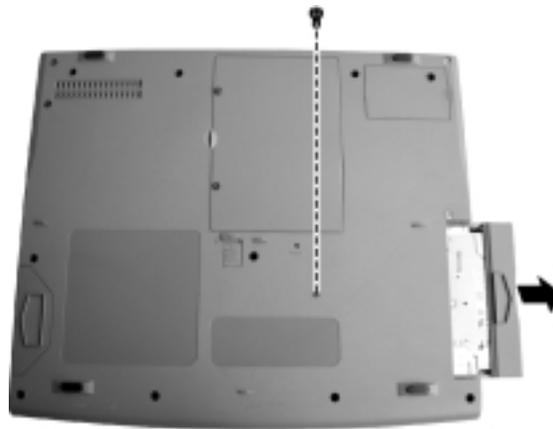

Figure 2-11
2. Remove one screw and slide the FDD/HDD module out of the compartment. (figure 2-11)